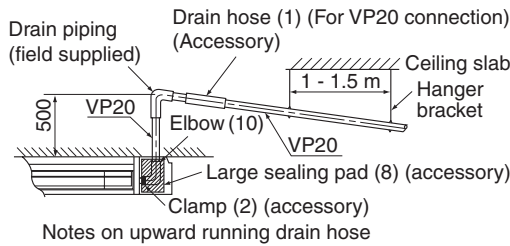
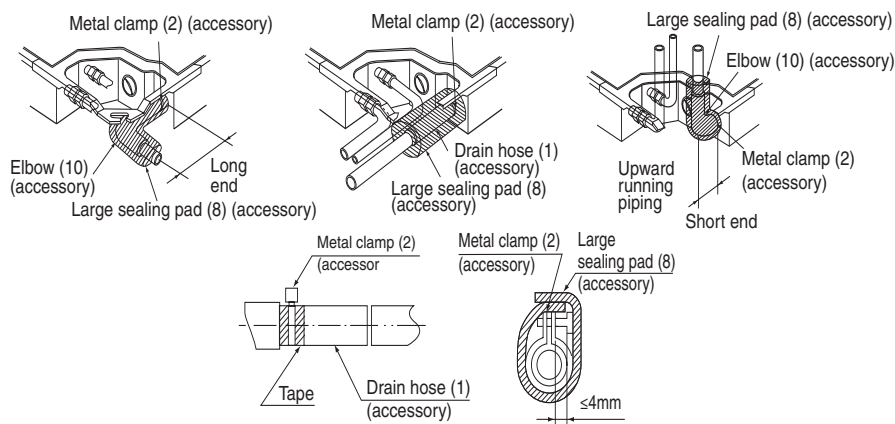

Fig. 26
Fig. 28
1. Rig drain piping (Refer to Fig. 26)
- To keep the drain hose from sagging, space hanging wires every 1 to 1.5 m. **(Refer to Fig. 26)**
- Use only the included drain hose (1), (for rightward running drain hose) or elbow (10) (for upward running drain hose) and clamp (2).
- Fit the drain hose (1) or elbow (10) over the drain pipe up to the neck and fasten tight with the clamp (2).
- Insulate the clamp (2) and drain hose or elbow (10) with the included sealing pad (8). **(Refer to Fig. 28)**